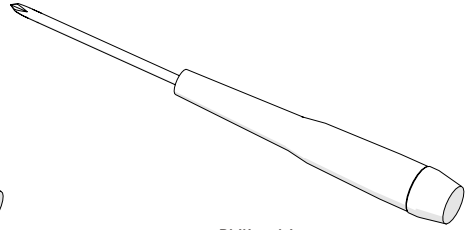

Fig. 23 - Philips driver
- ▶ The Philips driver (*Fig. 23*) is sufficient for typical operations and adjustments of the CIRC-IT.